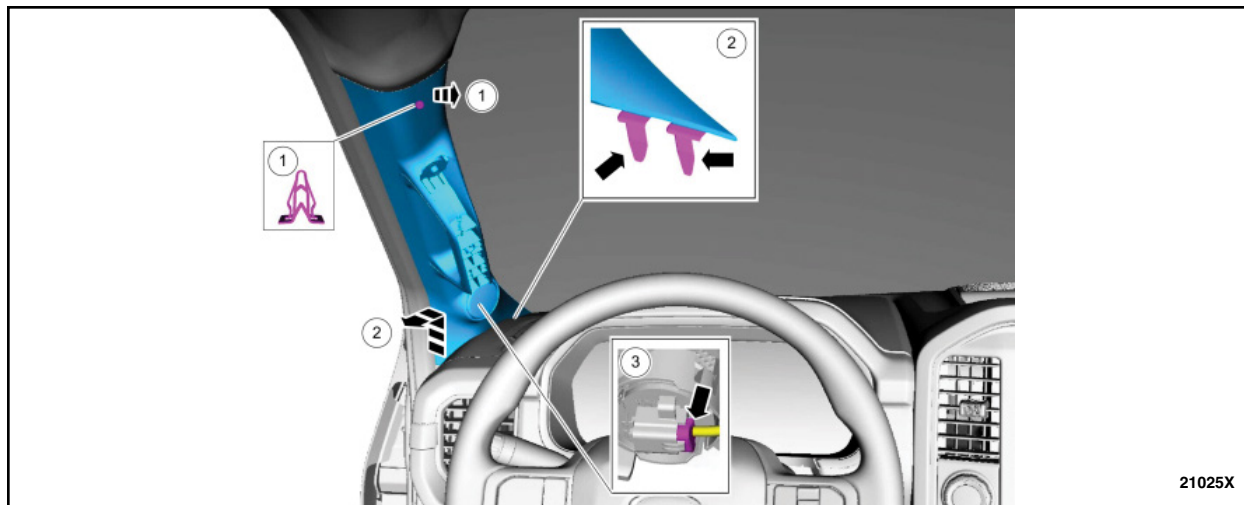

FIGURE 15
15. Remove the A-pillar trim panel. See Figure 15.